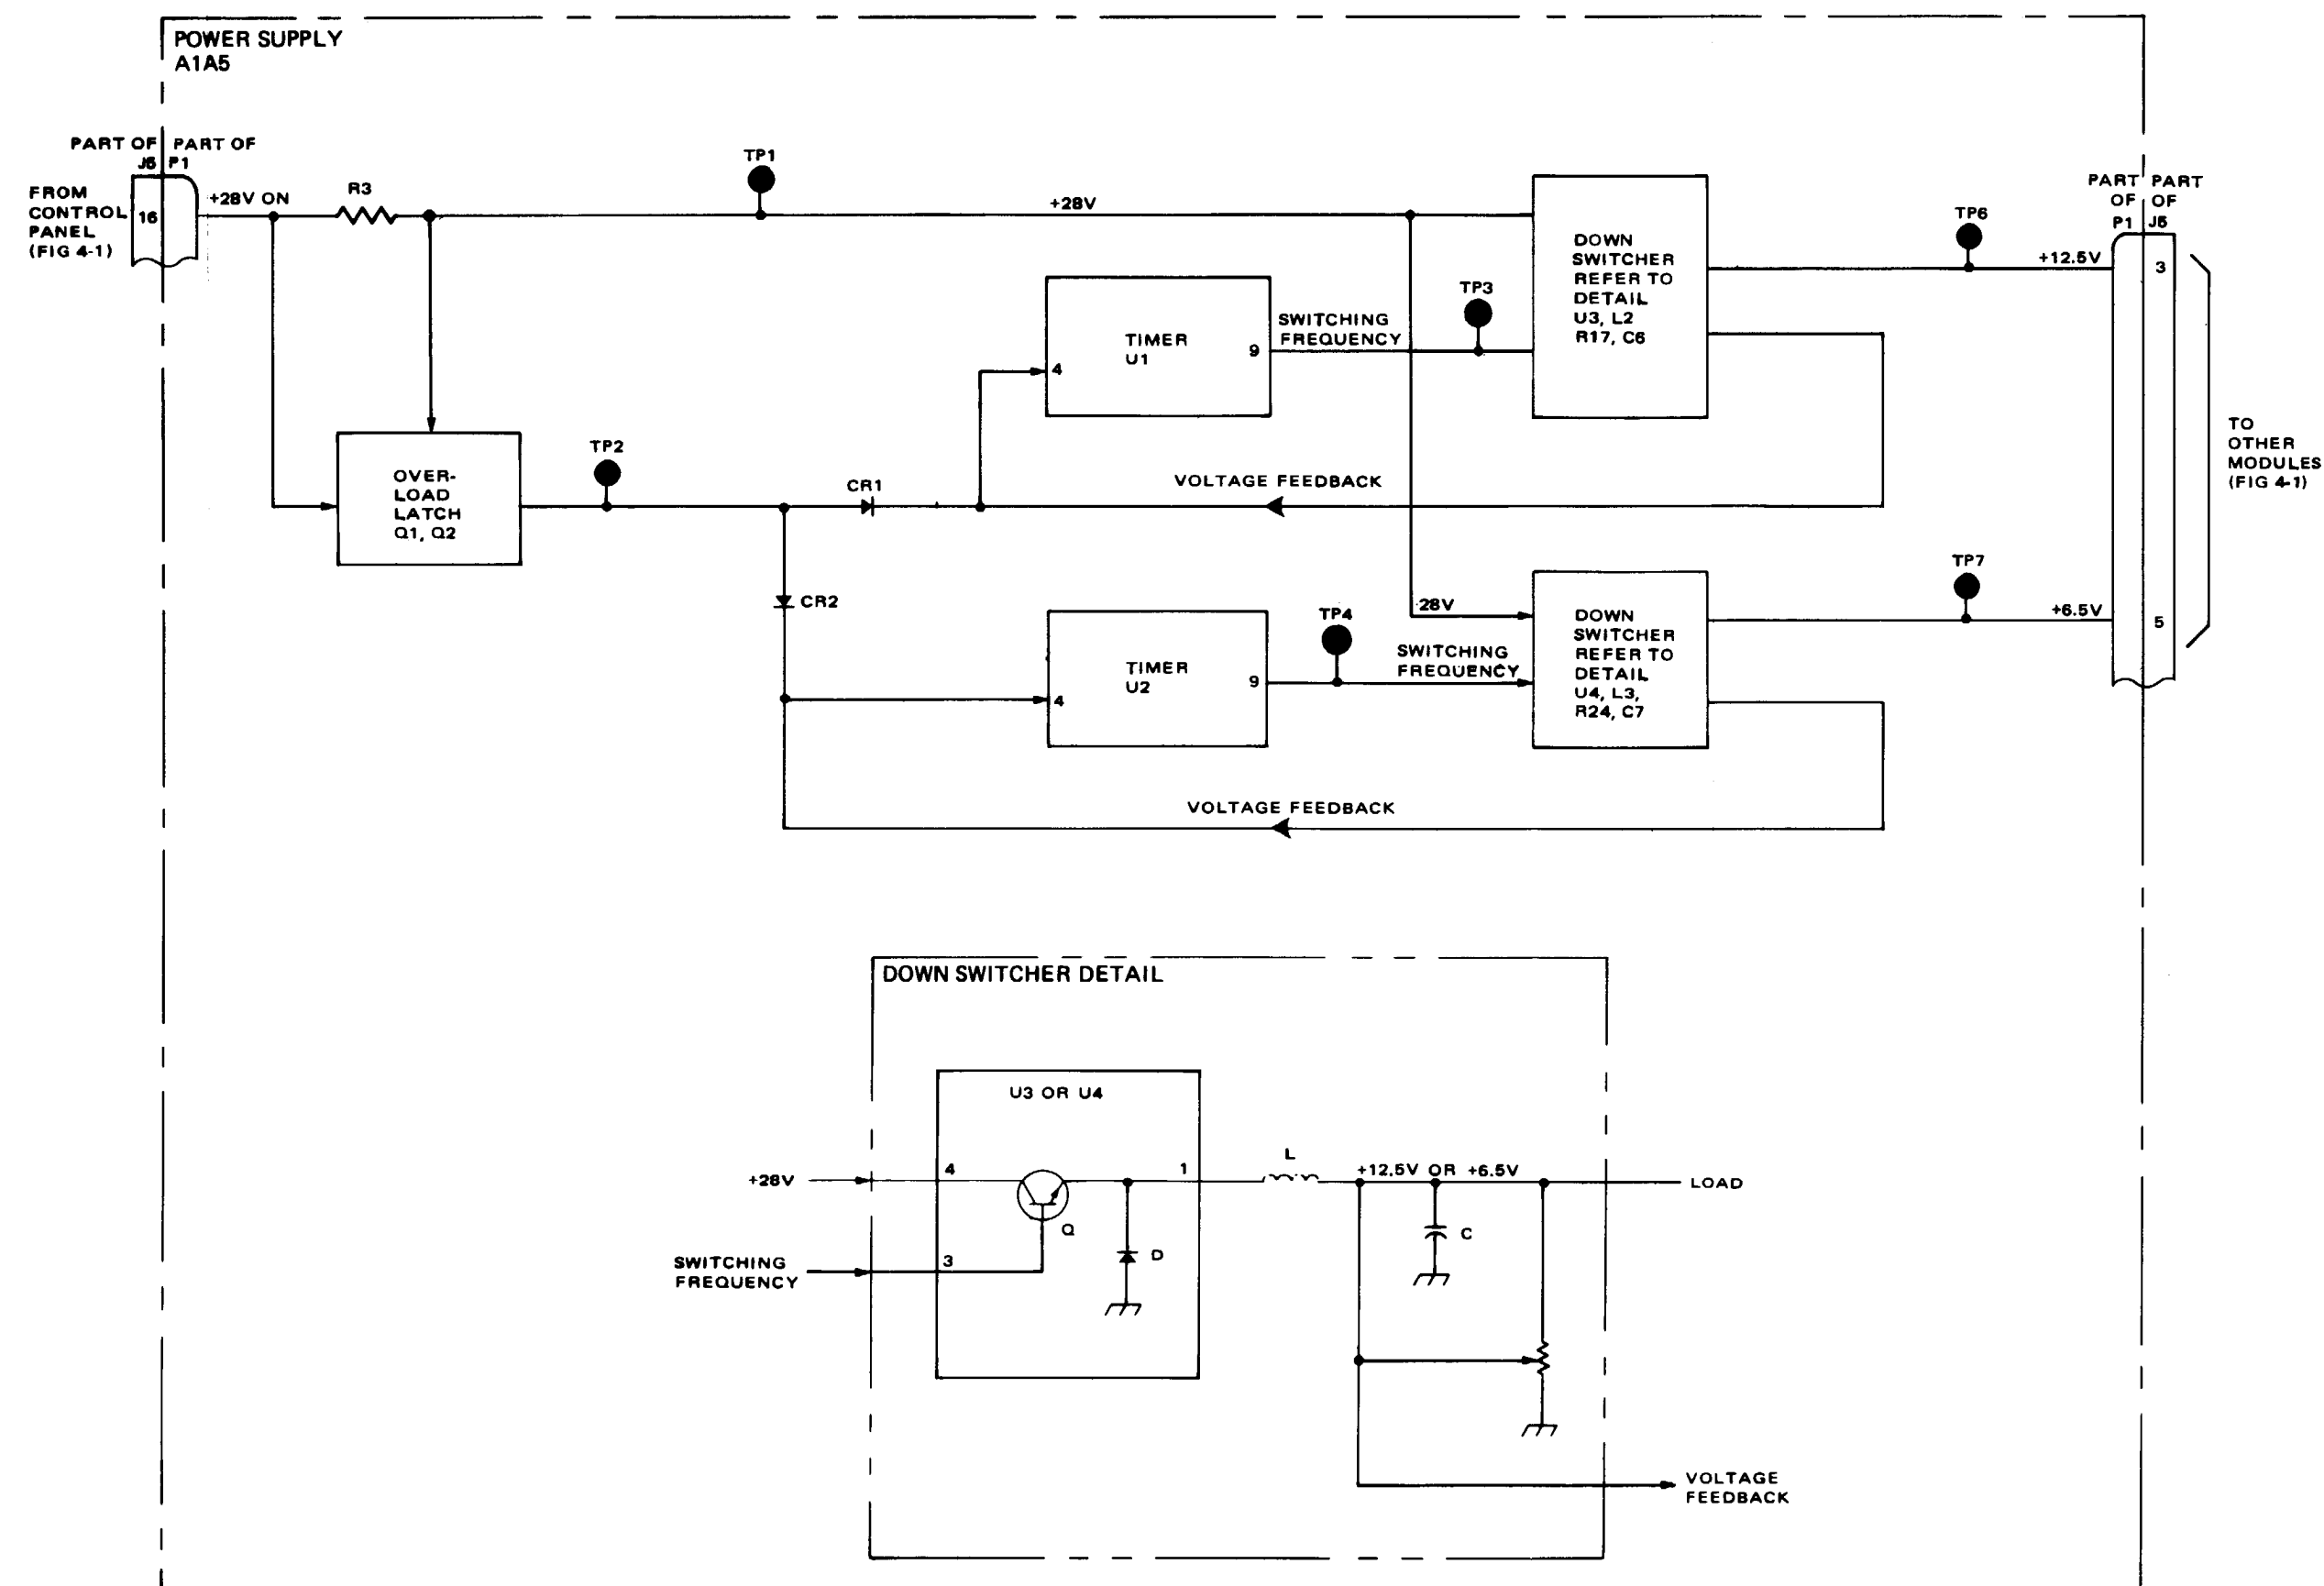

Figure 2-11. Power Supply A1A5
2-104. POWER SUPPLY (Figure 2-11).
2-106. Down Switching. The actual conversion from +28v to +12.5v/+6.5v is performed by the down switchers U3 and U4 shown in the detail of figure 2-11. A transistor switch (Q) is driven on and off at a switching frequency of approximately 77 kHz. When the switch (Q) is closed, current flows through the inductor (L) and charges the capacitor (C). When the switch opens, the energy stored in the inductor (L) is transferred into the capacitor (C) via the diode (D). The voltage on the capacitor (C) is determined by the ratio of closed to open time of the switch (Q). The switch (Q) and diode (D) are integrated parts of switching regulators U3 or U4. The other elements are discrete.